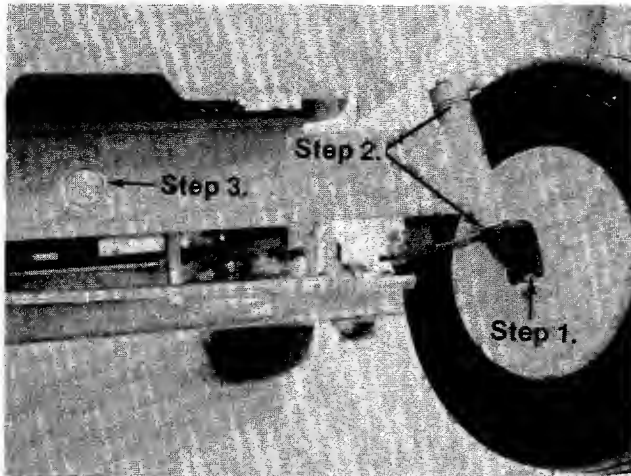

FIGURE 29.
1. **Wheel Bearings (4).** Lubricate with SAE 30 oil after every 25 hours of operation or once a season. See figure 29.
2. **King Pins (2).** Lubricate with SAE 30 oil after every 25 hours of operation or once a season. See figure 29.
3. **Front Pivot Bolt (1).** Lubricate with SAE 30 oil after every 25 hours of operation or once a season. See figure 29.